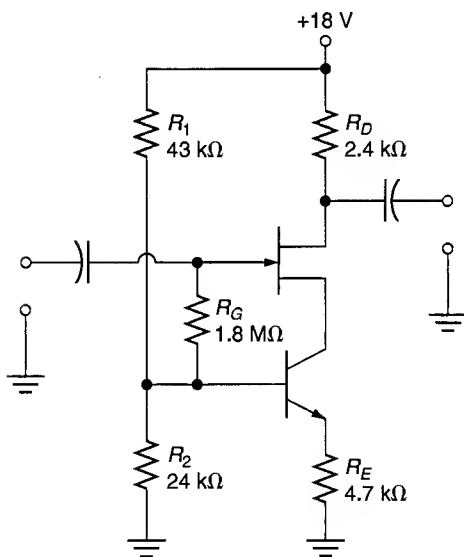

FIGURE 12.75
49. The biasing circuit shown in Figure 12.75 is a *current-source bias* circuit. Determine how this circuit obtains a stable value of I_D .